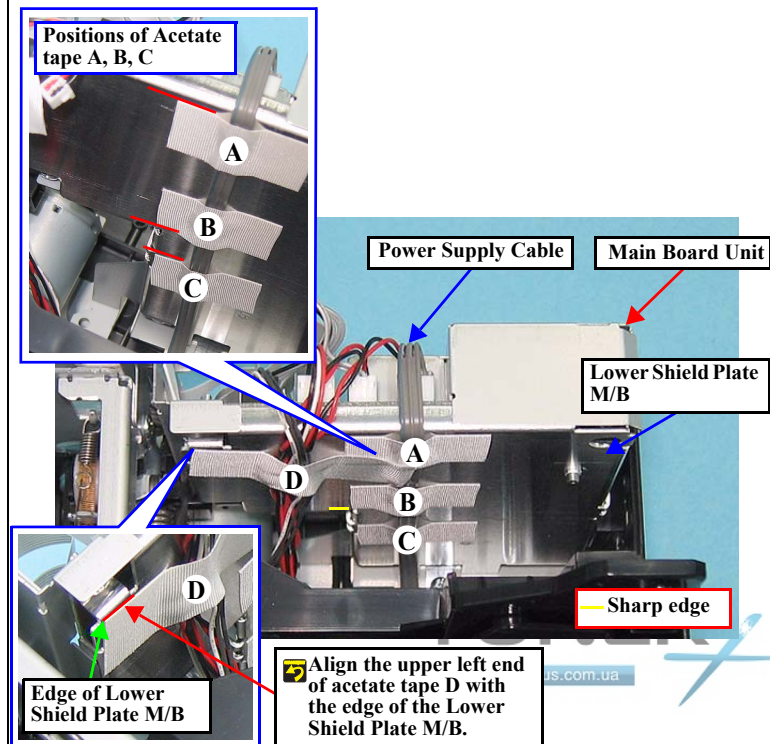

Figure 4-20. Routing the Cables
1. Route the Power Supply Cable closely along the Lower Shield Plate M/B, and secure the cable with acetate tapes at the positions A, B, and C (30 mm each) as shown in Fig.4-20.
2. Avoiding the sharp edge shown in Fig.4-20, secure the following cables with the acetate tape D (50 mm).